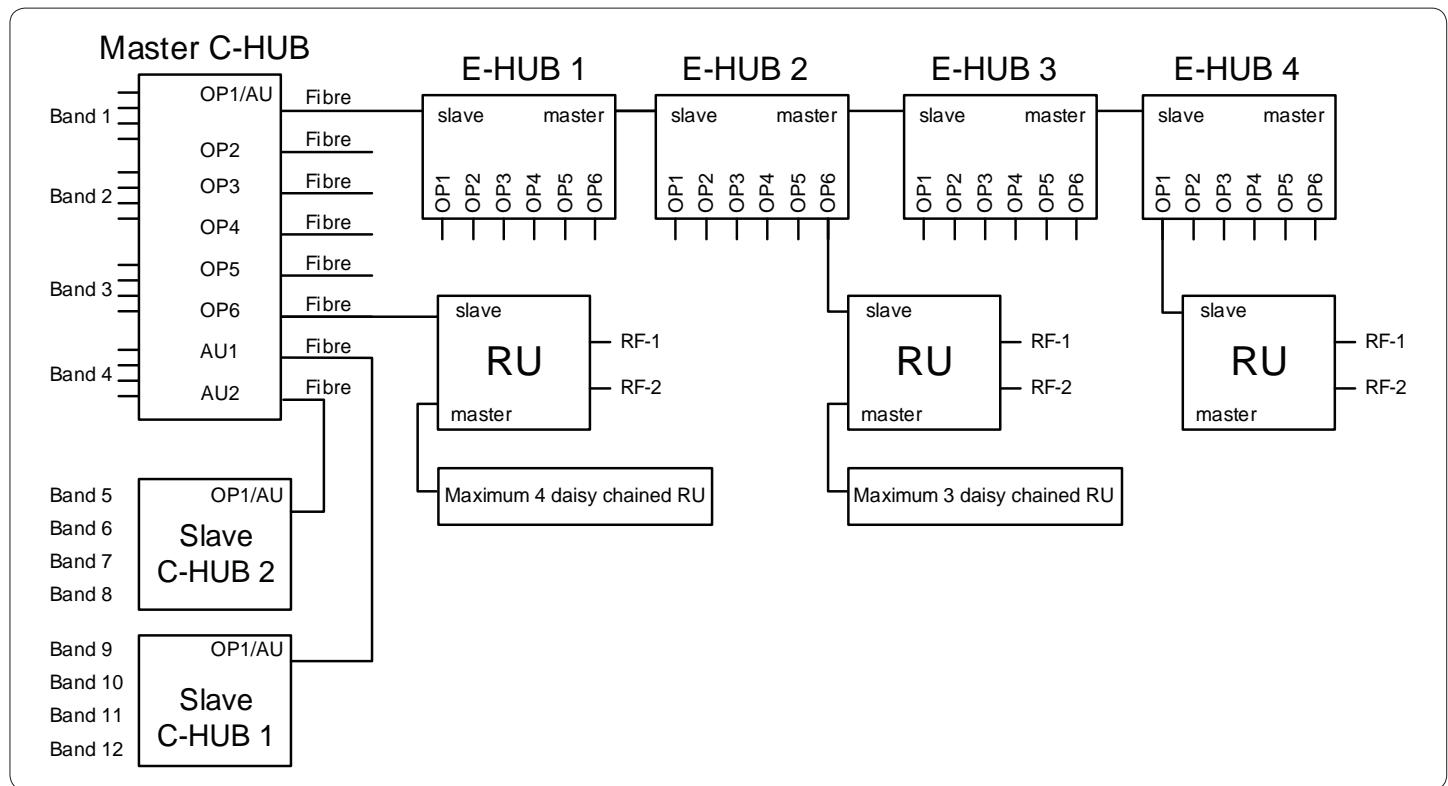

Fig. 2: Networking layout
K-BOW enables different networking layouts as shown in Fig. 2. The following applies:
- In smaller systems, the C-hub and RU can be directly connected without the E-hub, as shown in Fig. 2.
| Fig. 2: | Networking layout | 10 |